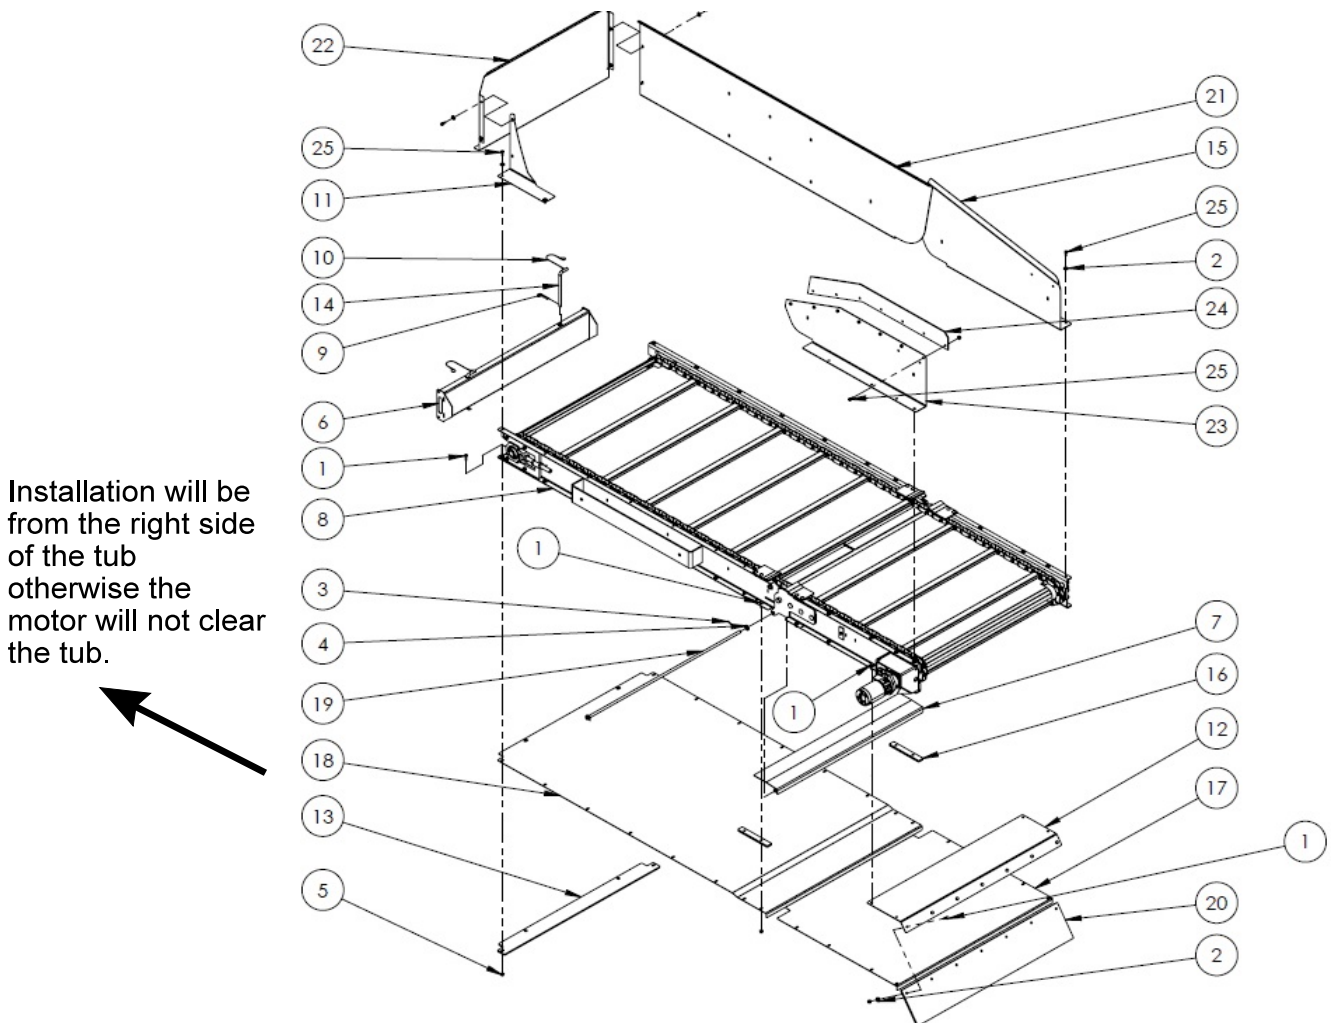

Figure 3: Right Hand Hydraulic Folding Conveyor Assembly
5. The components to the hydraulic folding conveyor assembly are assembled according to the diagram (Figure 3) and chart (Table 1) below.